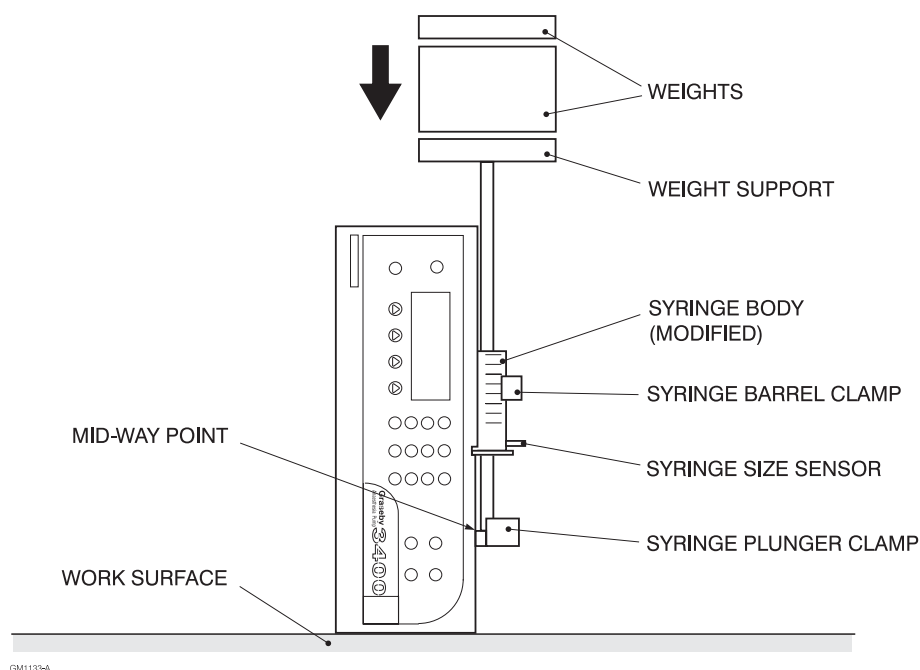

Figure 2.1 Thrust measuring set up
2. Remove the plunger from a BD 60 ml syringe and then saw the end off the syringe (see Fig. 2.1). Place this modified syringe onto the pump so that it will act as a guide for the weight support rod and also position the size sensor flag.
4. Place the pump in a vertical position, with its left hand side uppermost (see Fig. 2.1).